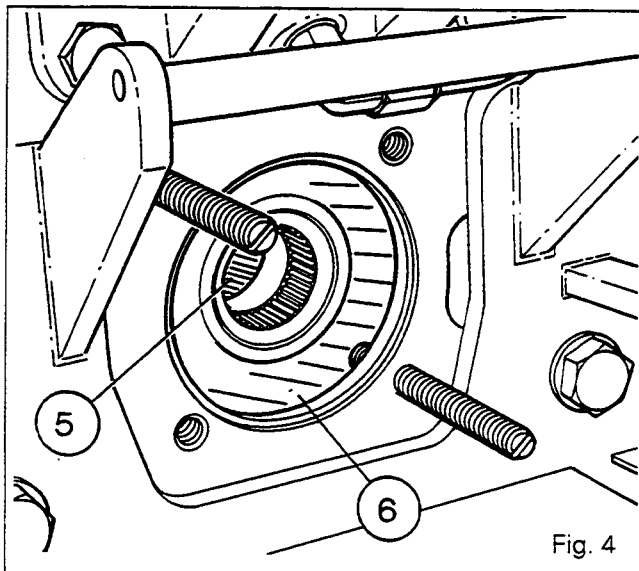

Fig. 4
11. Withdraw the shaft and bearing assembly (Fig. 4).
12. Mount the shaft and rear bearing assembly (Fig. 4).